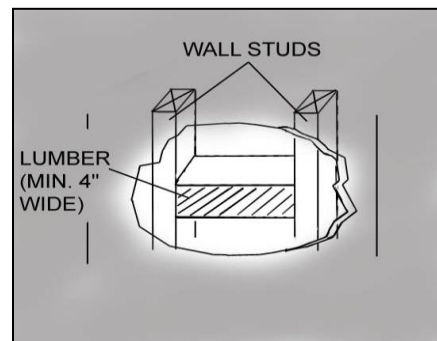

Figure 22
- Using references on Table 2 and measurements on Page 22-23, decide the level of the lumber. Refer to Figure 22.